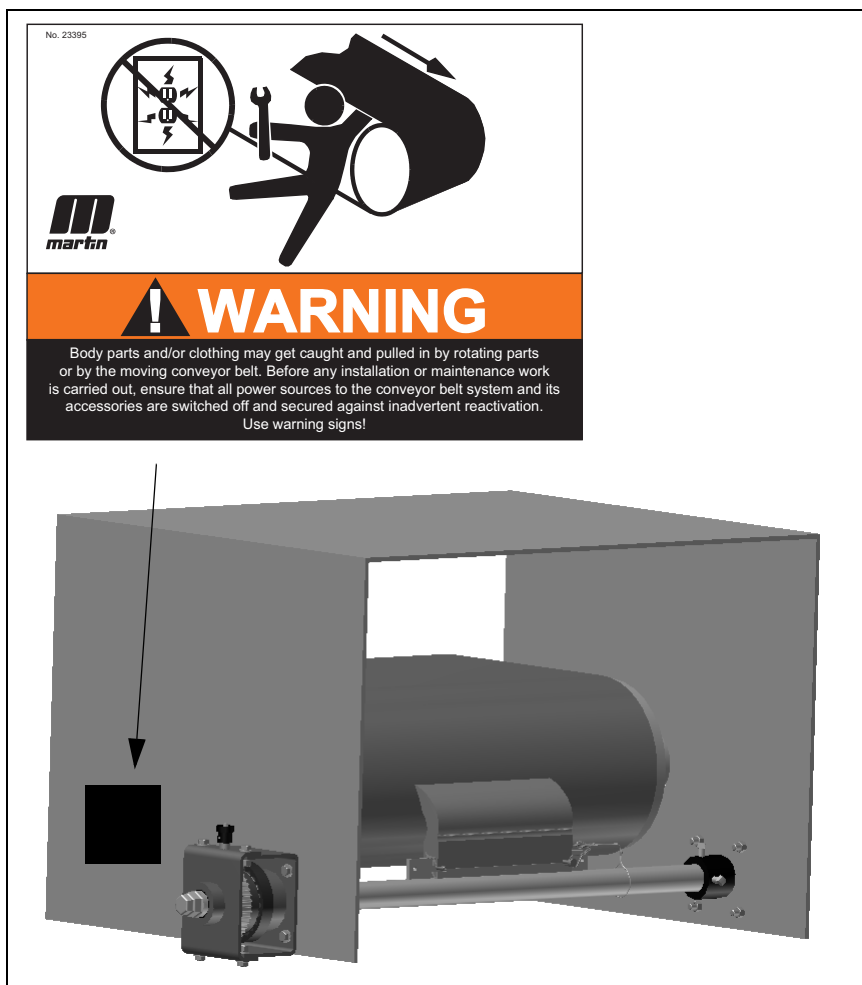

Fig. 8
2. Insert the hollow clamping pin (4, Fig.8).